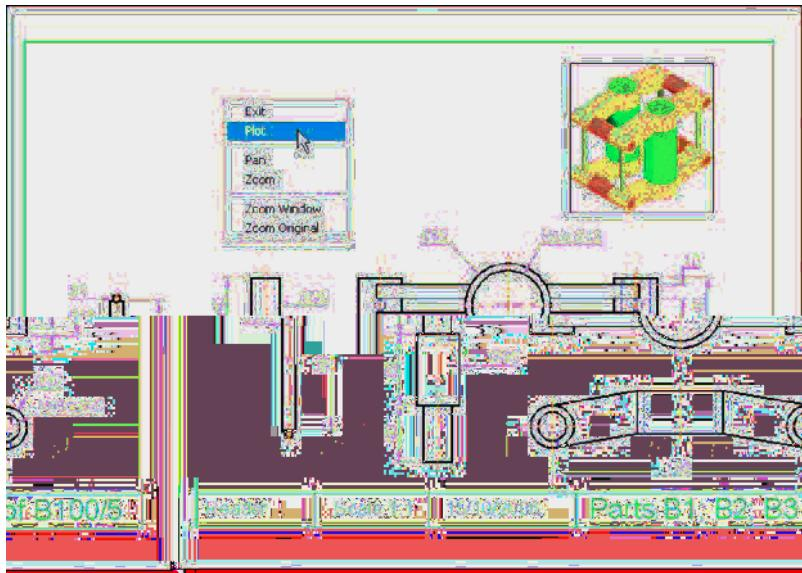

Fig. 19.9 Second example – Printing/plotting
Second example – Printing/plotting (Fig. 19.9)
4. If satisfied with the preview (Fig. 19.9), right-click and in the menu which appears click the name **Plot**. The drawing plots.